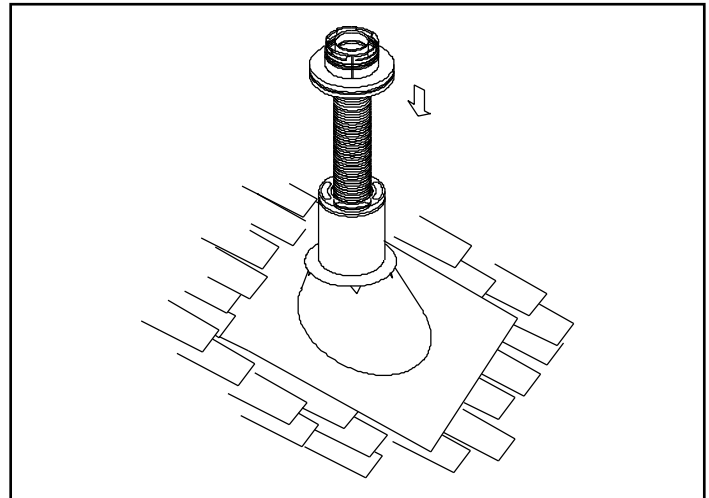

Figure 4.20
4. Pass the flex pipe down through the center of the chimney system, and center the top adapter on the top of the chimney pipe. Drill four 1/8 in. (3mm) diameter holes through the top adapter, and into the chimney top. Ensure that you are drilling into the metal on the chimney. Twist lock the high wind termination cap onto the top adapter. See Figure 4.20 and Figure 4.21.